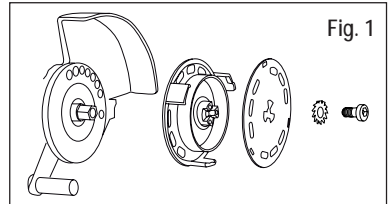
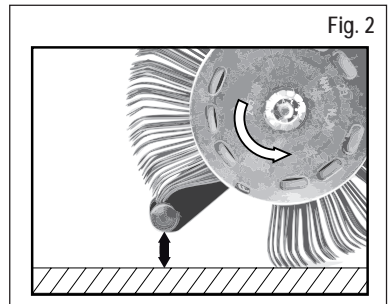

Fig. 1
Fig. 2
3. Interrupt supply of compressed air, then fasten the MBX® Die Blaster® 11 mm belt correctly to the tool using the related adaptor system AS012 (pay attention to direction of travel) and the related serrated lock washer and screw. See Fig. 1 and Fig. 2
- Are you using an **MBX**® belt with the wrong direction of travel? – Fit the brush belt such that it runs in the correct direction (see section 6, Placing in operation, Fig. 2).